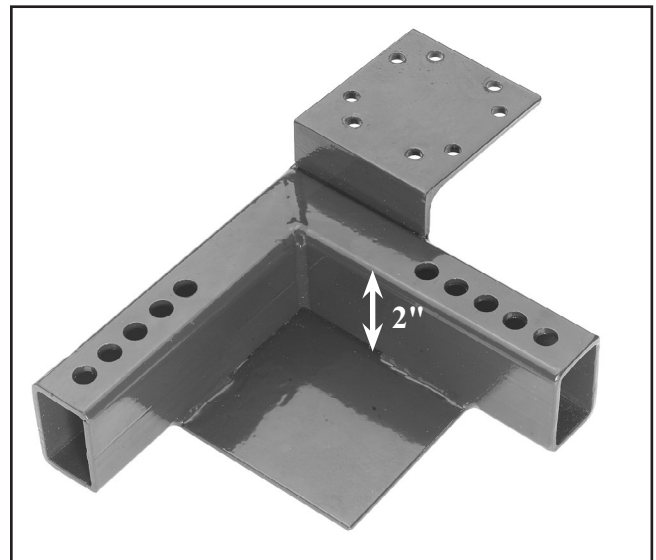

Figure 1. Corner bracket.
1. Measure the footprint of the machine to be mounted on the base, including anything protruding within a 2" high band around the base of the machine. The base of the machine will sit on four corner pads that are bounded by 2" rectangular tubing. Therefore, anything extending from the base within that band may interfere. **See Figure 1.**